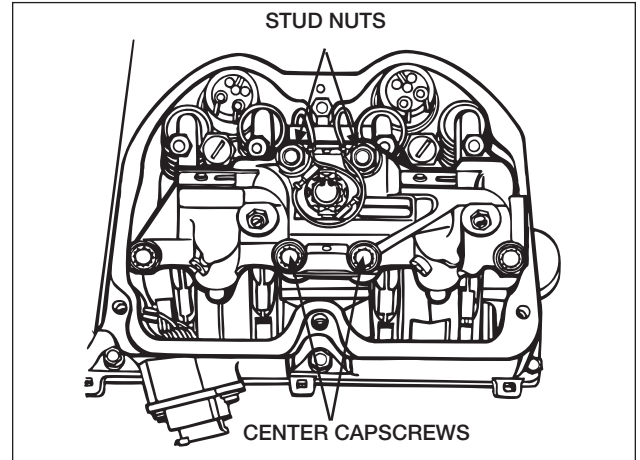

FIG. 8
4. Torque the four capscrews and the stud nuts in two stages as follows (see Fig. 8):